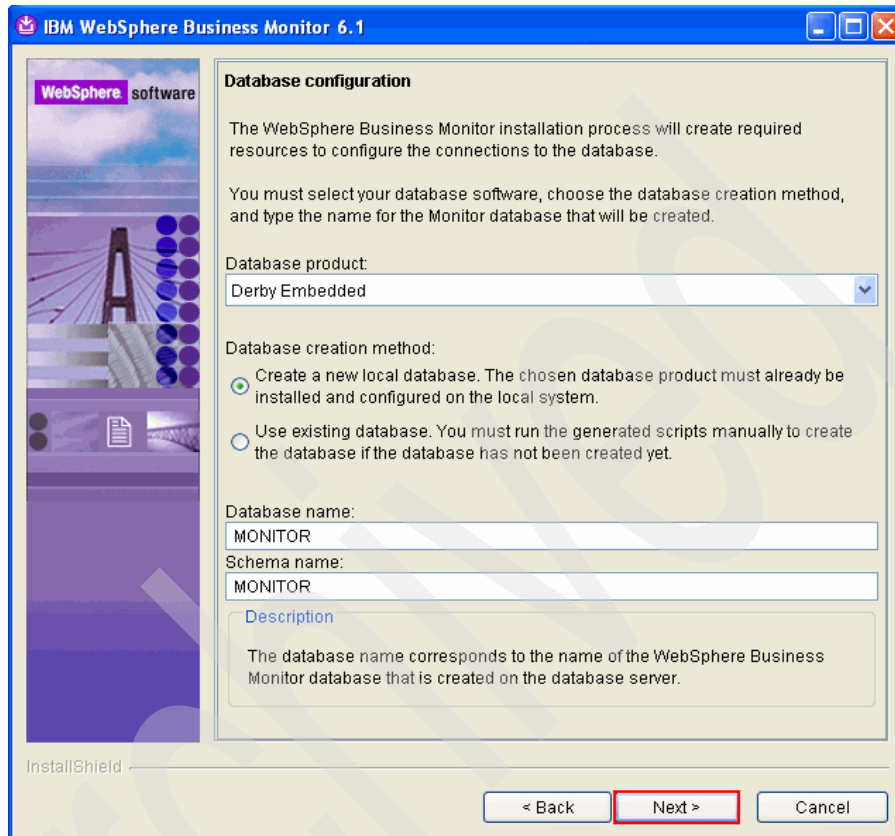

Figure 3-29 WebSphere Business Monitor installation: Database configuration
12. In the Database configuration panel (Figure 3-29), click **Next**. The new database called MONITOR is created in Derby.